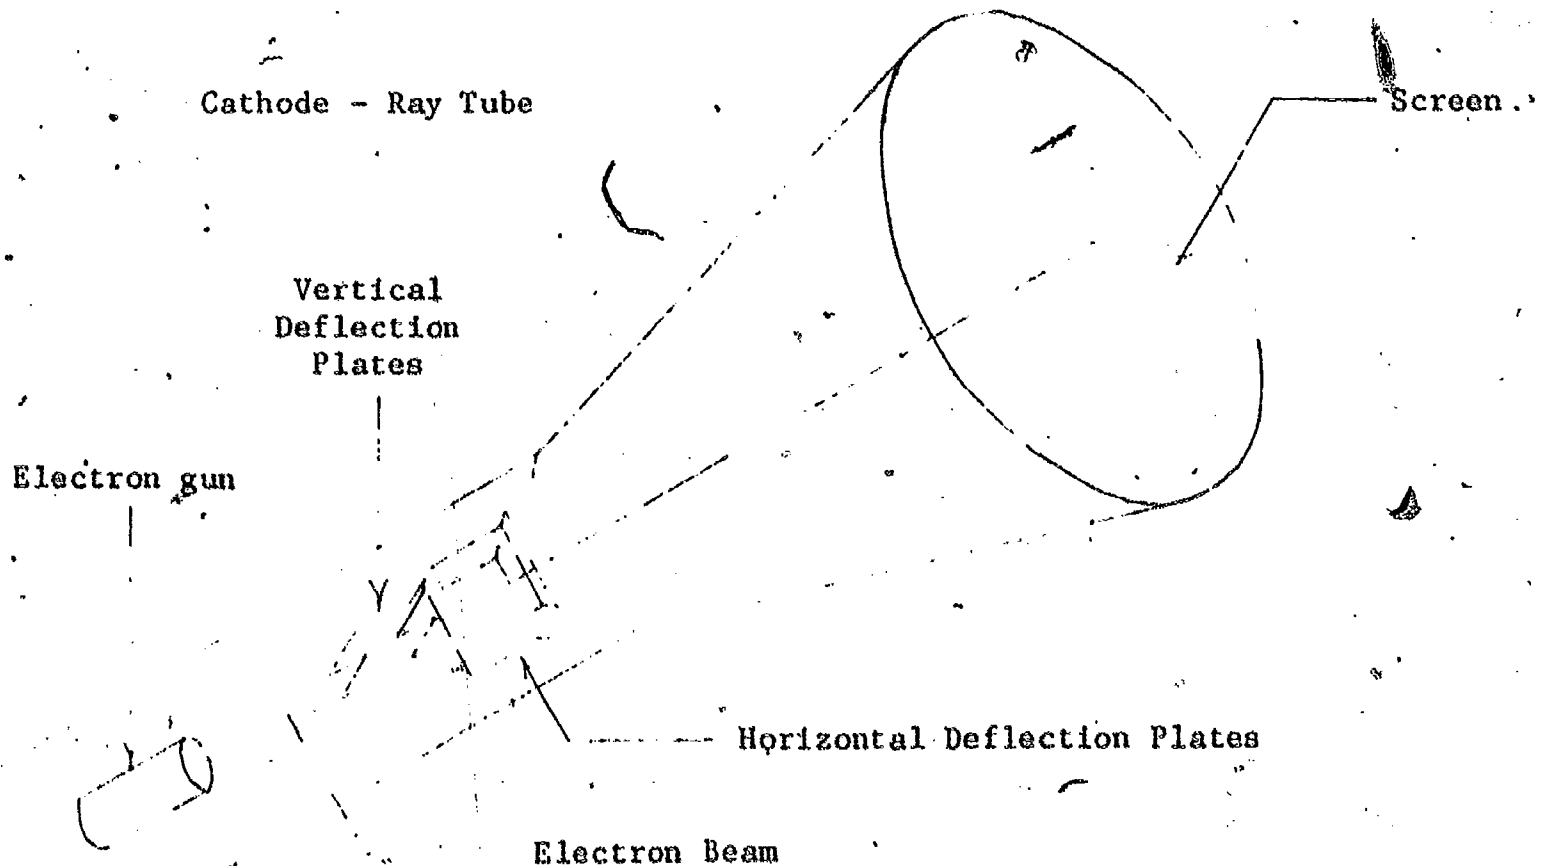

Figure 1
The CRT consists of three basic parts, (1) an electron gun (2) two pairs of deflection plates, and (3) a screen. The CRT is shown in Figure 1.